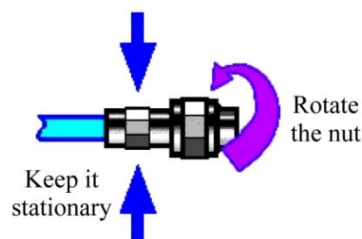

Figure 3.4 Connection method
Step 2: as shown in Figure 3.4, move the two connectors leveled together so that they can be smoothly engaged. Rotate the screw sleeve of the connector (note, not the rotating connector itself) until it is tightened, and there can be no relative rotational movement between the connectors during the connection.